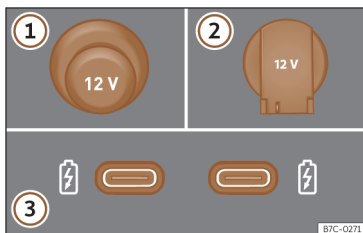

Fig. 147 Vehicle 12 volt socket.
>>> Fig. 147
Depending on the equipment and the country, the vehicle may also have USB connections **exclusively for charging or as a power socket** >>> Fig. 147 ③.